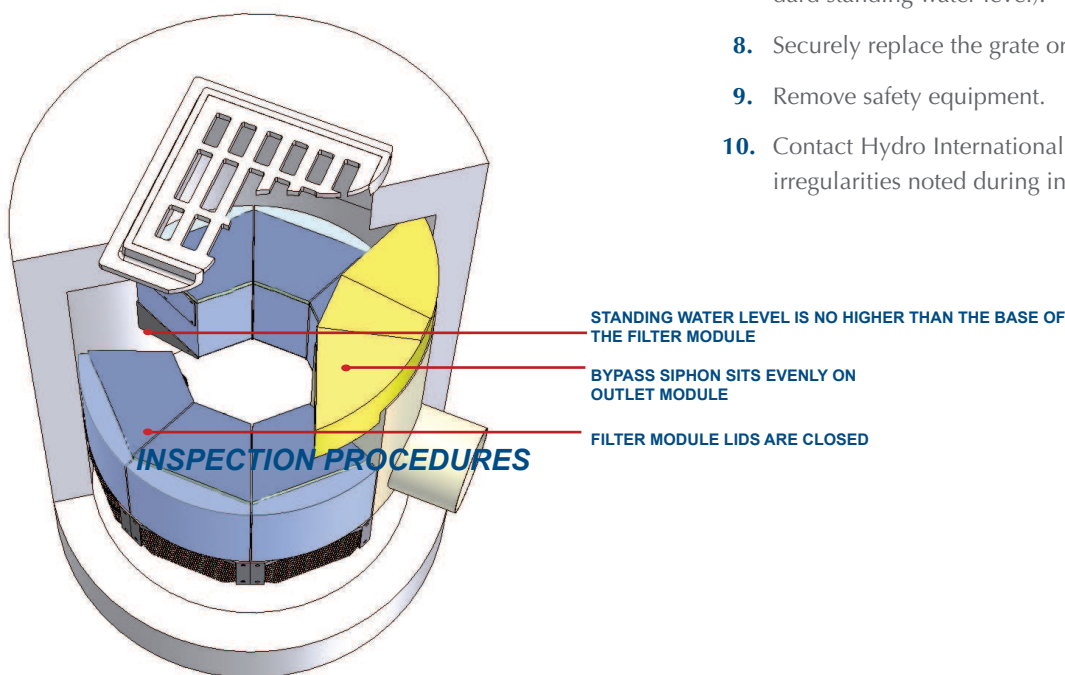

Figure 3: Inspection view of the Up-Flo Filter
3. Without entering the vessel, look down into the chamber to inspect the inside and to determine whether the high-water level indicator has been activated. Make note of any irregularities. See Figure 3 for a typical Inspection View.
7. On the Maintenance Log provided by Hydro International, record the date, unit location, estimated volume of floatables and gross debris removed, and the depth of sediment measured. Also note any apparent irregularities such as damaged components or a high standing water level (see Figure 3 for the standard standing water level).
4. If the standing water level in the sump is above the base of the Filter Modules (see Figure 3), tug the Pull Chain(s) to release the Drain Down Plug(s). Allow the excess water to drain out of the chamber.